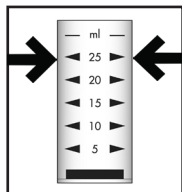

Figure 1
2. Dilute to the **25 mL mark with distilled water** (fig. 1).